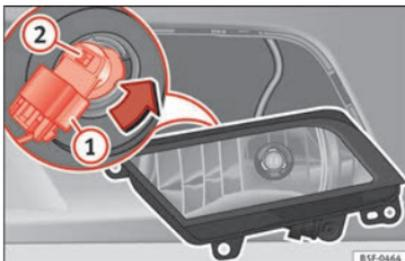

Fig. 104 Front fog light.
- Remove connector » **Fig. 104** ① from the bulb.
- Turn the bulb holder » **Fig. 104** ② to the left and pull.